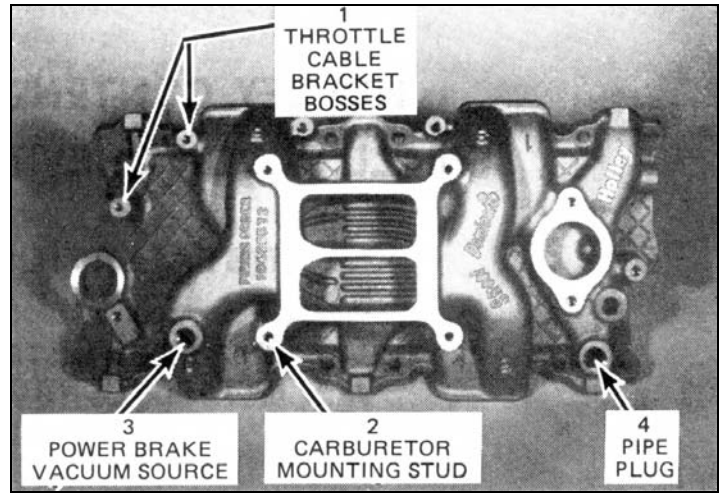

Figure 2
19. Before installing the new manifold, transfer all fittings from the old manifold. Pipe plugs are provided to close off all unused openings. To prevent water leaks, a thin film of silicone sealant should be applied to all threads. See Figure 2.
20. Apply a thin coat of silicone sealant to the cylinder head gasket surface. Lay the new manifold gaskets in place by aligning the bolt holes. **NOTE:** Do not use the sealant on rubber end seals. See Figure 2.
30. Install the studs in the manifold flange and lay the carburetor gasket in place. See Figure 2.
31. If the vehicle is equipped with power brakes, install the power brake line, (use power brake adapter, if necessary) in the tapped hole on runner no. 8. See Figure 2.